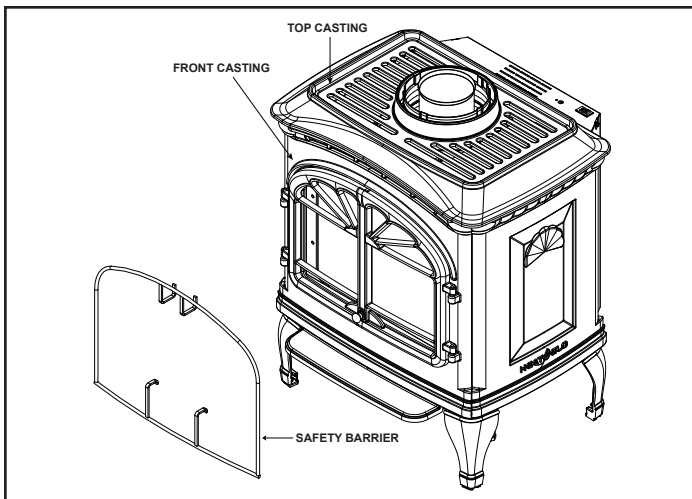

Figure 6.11 - Remove Casting
10. Remove front casting, Figure 6.11.